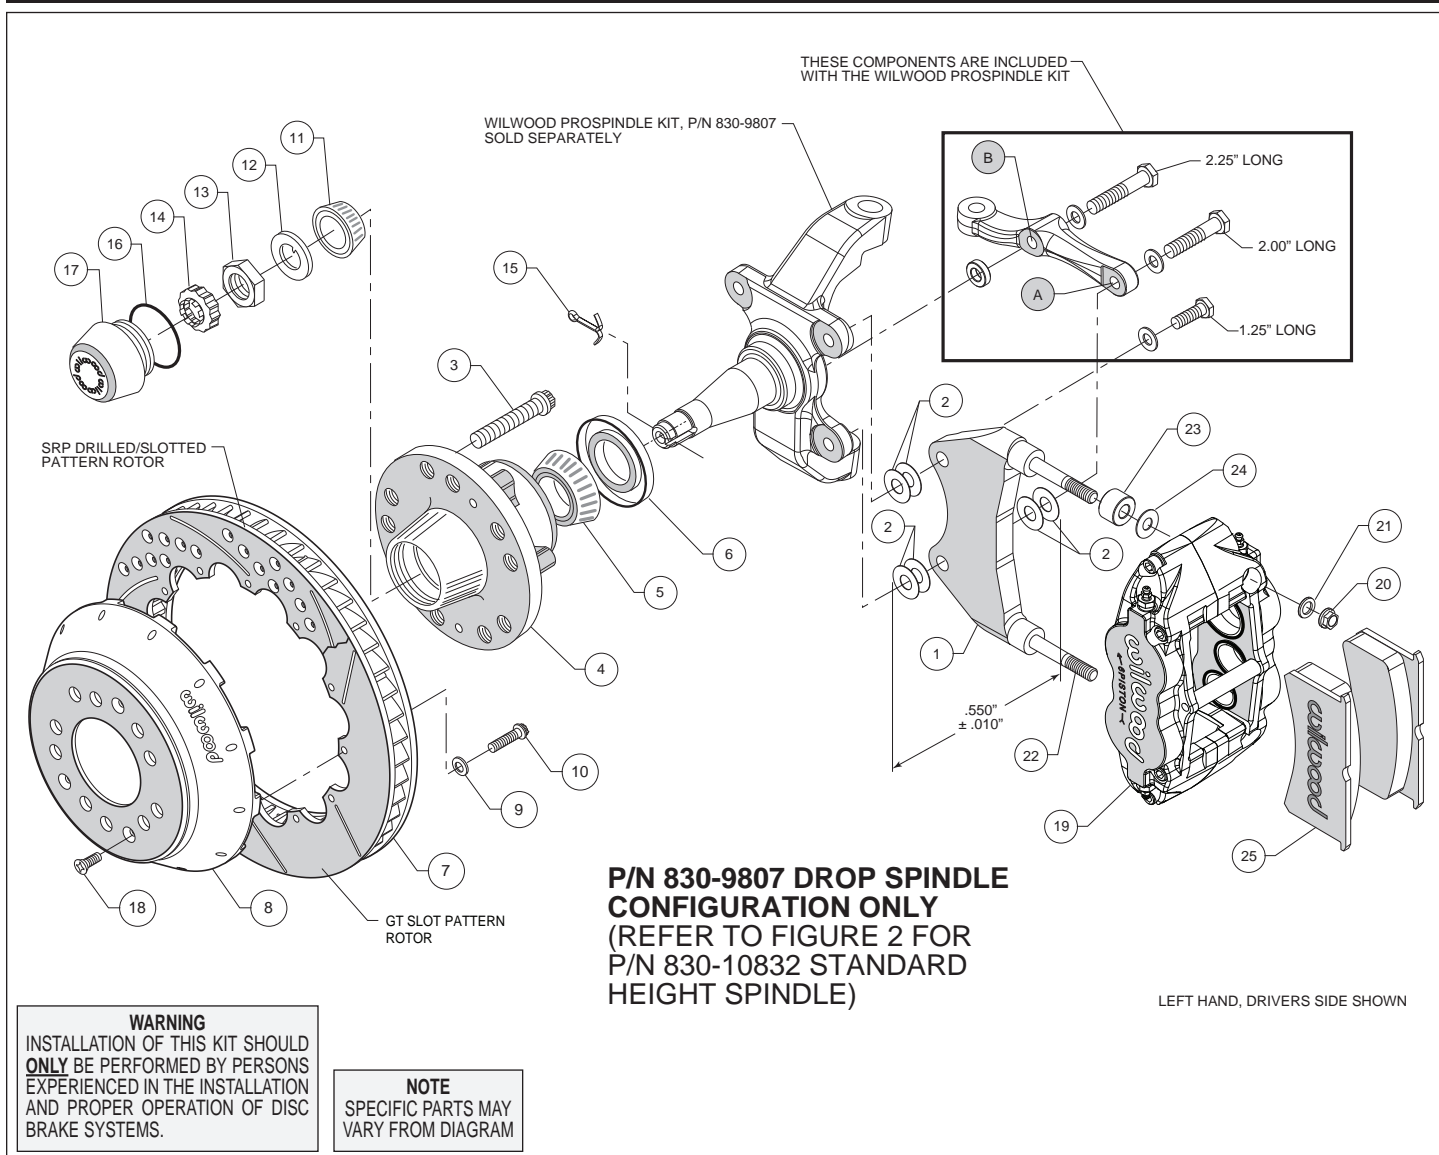
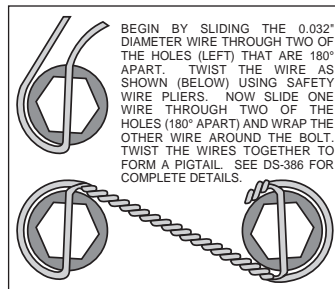

Figure 1. Installation Configuration For Drop Spindle, P/N 830-9807
Figure 4. Safety Wire Diagram
**Assembly Instructions** (numbers in parenthesis refer to the parts list and Figures 1 or 2 on the preceding pages):
- NOTE:** Each Wilwood ProSpindle kit includes bolts, washers, and a spacer to mount the steering arm and caliper bracket. The various bolts are identified by length in the following instructions and in Figures 1 and 2.
**For 2" Drop ProSpindle (P/N 830-9807):** The caliper bracket assembly (1) should initially be installed with clean, dry threads on the mounting bolts.
- Orient the bracket as shown in Figure 1 and Photo 1. Install at top spindle hole using 1.25" long bolt and .06" thick washer (from ProSpindle kit), and two .016" thick shims (2) between the bracket and spindle, Figure 1.
- Orient the steering arm, and identify the hole marked 'A', as shown in Figure 1. Install at bottom spindle hole using 2.00" long bolt and .06" thick washer (from ProSpindle kit), two .016" thick shims (2) between the bracket and steering arm, and another two .016" thick shims (2) between the bracket and spindle, Figure 1. The bracket is located between the steering arm and spindle. **NOTE:** The bracket and shim washers must add up to a total thickness of .550"  $\pm$  .010", Figure 1.
- Finish attaching the steering arm through the hole marked 'B', as shown in Figure 1. Install using 2.25" long bolt, .06" thick washer, and .25" thick spacer (all from ProSpindle kit), Figure 1.
- Pack the small outer bearing cone (11) with high temperature disc brake bearing grease and install into front of hub (4). Slide the hub assembly onto the spindle. Secure using spindle washer (12) and adjusting nut (13), Photo 5. Bearing adjustment: Tighten the nut while turning the hub. When there is a slight bind on the bearings, they are seated correctly. Back the nut off about 1/6 to 1/4 of a turn, or sufficiently to allow .001" to .007" end play. **WARNING:** Failure to back off adjusting nut could cause bearing to run hot and be damaged, which could cause the wheel to lock or come off. Install spindle nut retainer (14) and cotter pin (15).
- Screw dust cap (17) into hub (4). Friction created by the o-ring (16) on the dust cap keeps it from unscrewing.
- Orient the rotor (7) and the hat (8) as shown in Figures 1 or 2, and Photo 6. Attach rotor to hat using bolts (10) and washers (9). Using an alternating sequence, apply red *Loctite*® 271 to the threads, and torque to 155 **in-lbs**. For an added measure of security, the bolts may be safety wired using standard 0.032 inch diameter stainless steel safety wire as shown in Figure 4. Refer to Wilwood's data sheet DS-386 (available at [www.wilwood.com/Pdf/DataSheets/ds386.pdf](http://www.wilwood.com/Pdf/DataSheets/ds386.pdf)) for complete safety wire installation instructions.
- Slide the hat/rotor assembly (8 and 7) onto the hub (4) taking care to align the small countersunk holes in the hat with the small threaded holes in the hub. **NOTE:** The hat must fit flush against the hub face or excessive rotor run out may result. Install three flat head screws (18) through the small holes in the hat (8), and torque to 85 **in-lb**.
- NOTE:** This kit contains distinct right and left hand calipers that must be mounted in a specific direction, as described below. Lubricate the caliper mounting studs (22) with lightweight oil. Initially place one .035" thick shim (24), and spacer (23) on each stud as shown in Figure 1 or 2, and Photo 7. Mount the caliper (19) onto the bracket (1) using lock nuts (20) and washers (21), Figure 1 or 2. Ensure that the caliper is mounted so that the largest pistons are at the rotor exit end of the caliper, in relation to the direction of rotor rotation. Temporarily tighten the lock nuts and view the rotor through the top opening of the caliper. The rotor should be centered in the caliper, Photo 8. If not, proceed as follows:
- For the lower bracket mount bolt, if a shim was added between the bracket and spindle, then a shim must be removed between the steering arm and bracket, such that the total thickness of bracket and shims remain equal to  $.550 \pm .010$ ", Figure 1.